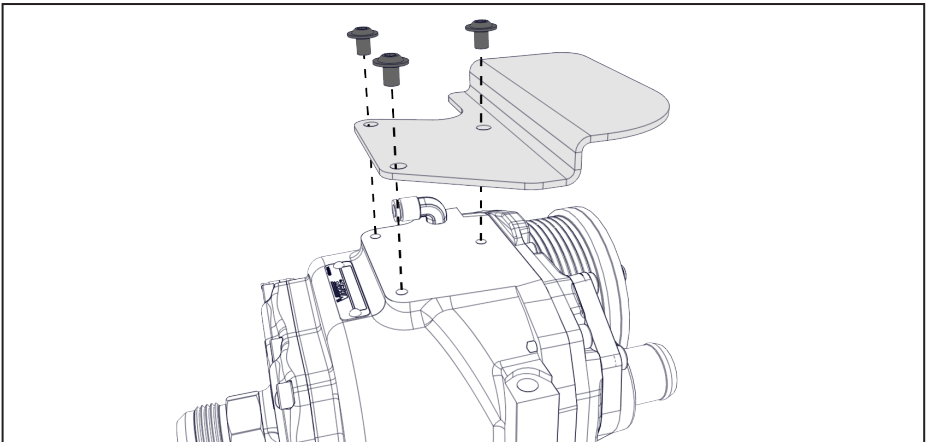

Figure 16 — Install compressor shield
- Apply Loctite 242 (blue) to the 3 supplied fasteners and install the debris shield onto the compressor (Figure 16).